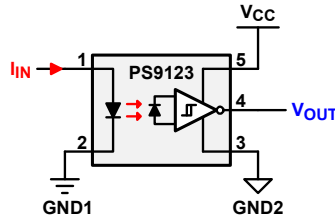

Figure 1. Functional Block Diagram
- Figure 1. Functional Block Diagram 2
An optocoupler provides signal transfer between an isolated input and output using an infrared Light Emitting Diode (LED) and a silicon phototransistor (Figure 1). The LED sends a beam of infrared energy to an optical receiver inside a single package with a light conducting medium between the emitter and the detector. This mechanism provides complete electrical isolation of electronic circuits from input to output, while transmitting information from one side to the other, and from one voltage potential to another.